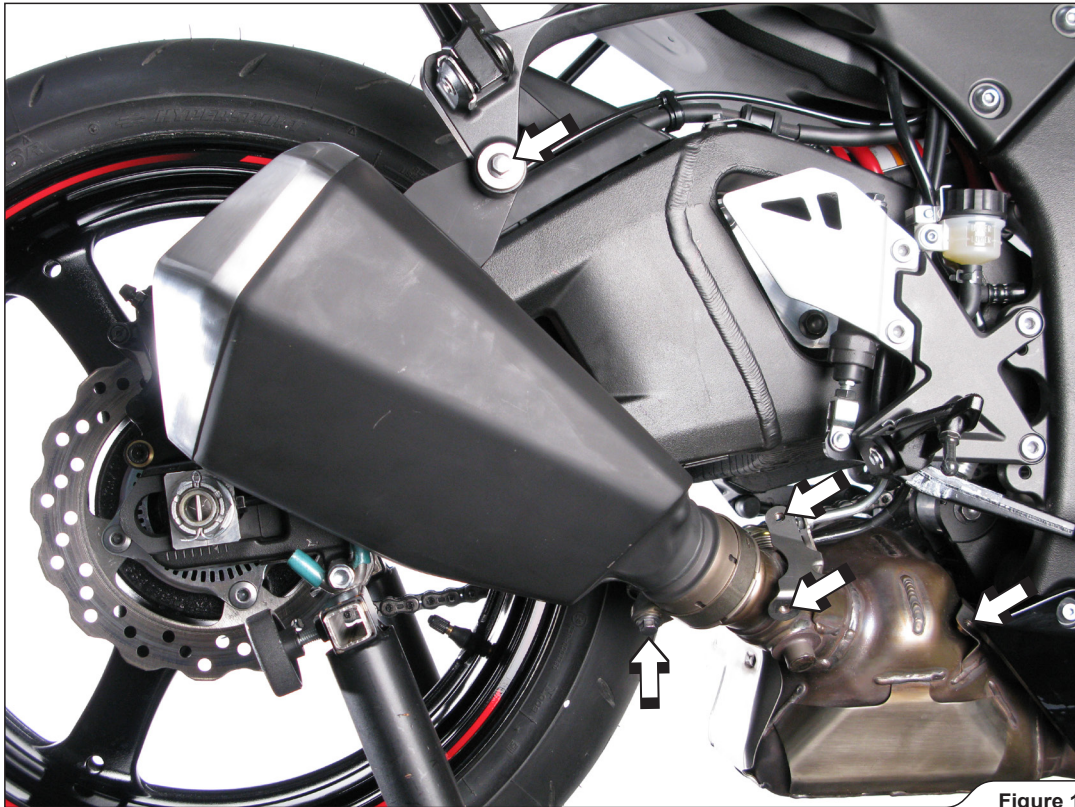

Figure 1
2. Unscrew the original heat-shield. Unscrew marked bolts from the muffler hanging bracket and the metal clamp at the muffler-collector connection (**Figure 1**). Remove the muffler off the motorcycle.